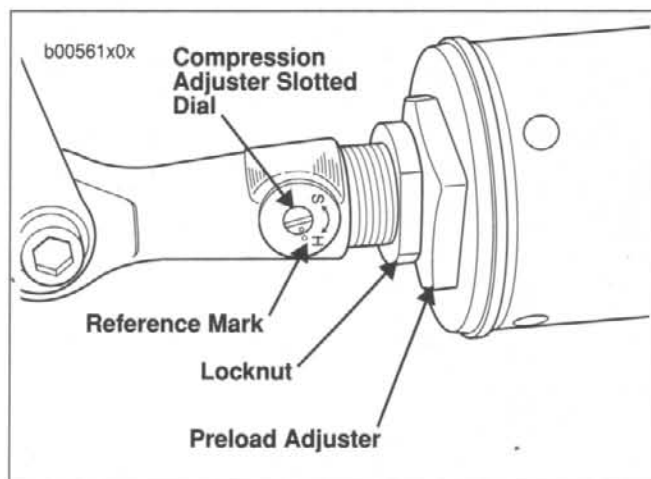

Figure 1-49. Preload Adjustment
2. See Figure 1-49. To adjust shock preload, loosen the locknut and turn the preload adjuster at the end of the shock to move the canister towards the front or rear of the motorcycle.
- See Figures 1-49 and 1-50. To adjust rear shock to maximum damping setting, use screwdriver to turn slotted dial on appropriate adjuster clockwise until it stops. This is the maximum damping setting.
- See Figures 1-49 and 1-50. To adjust rear shock to factory recommended settings, turn dial counterclockwise from maximum damping the amounts shown in Steps 3 and 4 to align the reference marks.
3. See Figure 1-49. Set compression damping using the slotted dial on the shaft at the end of the shock. Factory setting is as listed below: